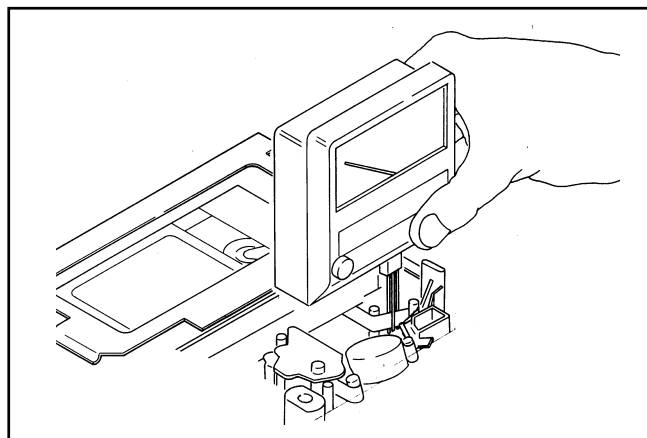

Figure 1-11-3
4. Insert the tension meter between S4 post and S5 post as shown in figure 1-11-3. (Direction is reverse)
5. Confirm that the tension value is within the specification. (Read the meter from rear side as shown in figure 1-11-3.)